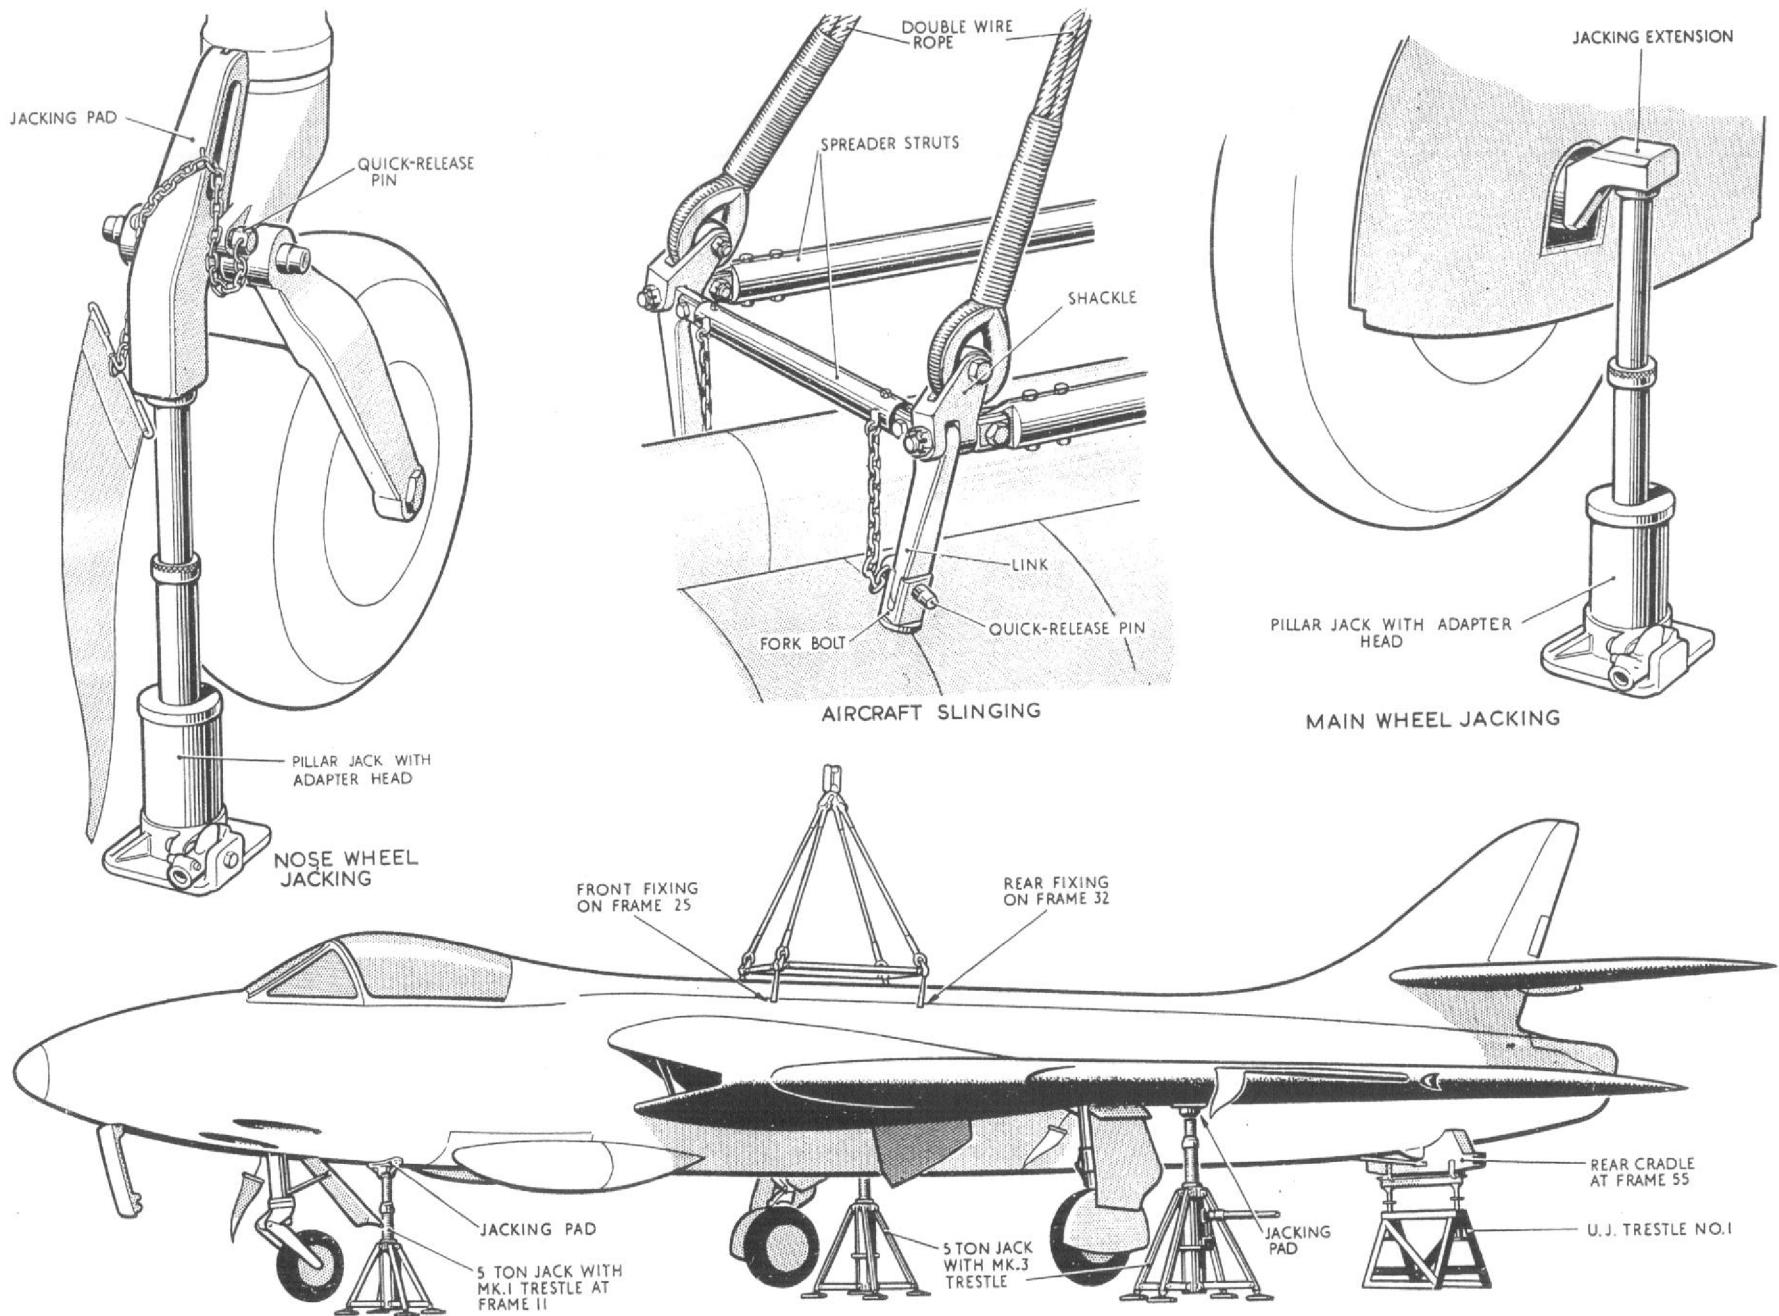

Fig.2 Jacking, trestling and slinging
- (1) Jack up the aircraft (fig.2) and retract the alighting gear.
- (2) Position the component trestles to fully support the aircraft.
- (3) Remove the outer wings (Sect.3, Chap.2) after removing any external stores which may be fitted.
6. The methods to be employed and the jacks, trestles, etc., to be used when jacking, slinging and trestling the complete aircraft for servicing are illustrated in fig.2. It should be noted that the fuselage jacking pad has a concave bearing surface and must not be interchanged with the wing jacking pad, which has a flat bearing surface.
(3) For re-engagement, the lever is engaged with the housing and then pressed home with the palm of the hand. Adjustment is accomplished by removing the split pin and then screwing up or unscrewing the links. One turn of the thread on the links gives 0.036 in. and the total adjustment available is 0.5 in. When adjustment is satisfactory, lock with a split pin.
10. When checking the alignment of the structure by means of the diagonal dimensions given in fig.5, there is no need to trestle the aircraft. When the incidence and dihedral are being checked, the aircraft must be trestled in the flying position, with the equipment shown in fig.2. The procedure for rigging is as follows:—